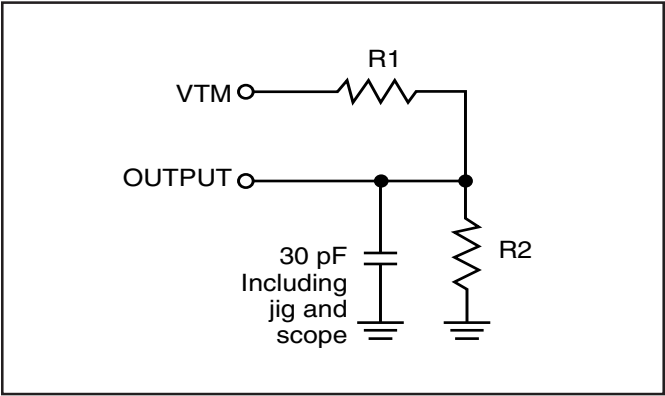

Figure 1
1. Test conditions assume signal transition times of 5 ns or less, timing reference levels of 0.9V, input pulse levels of 0.4 to 1.4V and output loading specified in Figure 1.
1. Test conditions assume signal transition times of 5 ns or less, timing reference levels of 0.9V, input pulse levels of 0.4V to 1.4V and output loading specified in Figure 1.